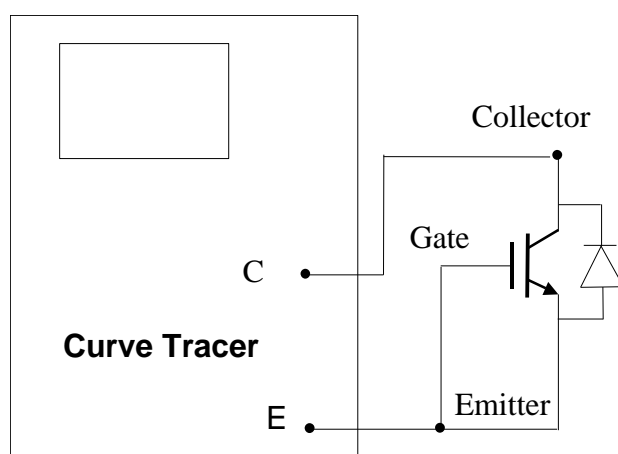

Figure 4: Schematic of the blocking test
3. Connect the emitter and the collector pin of IGBT to **C** and **E** plugs in the probe terminals of the curve tracer as shown in figure 4.